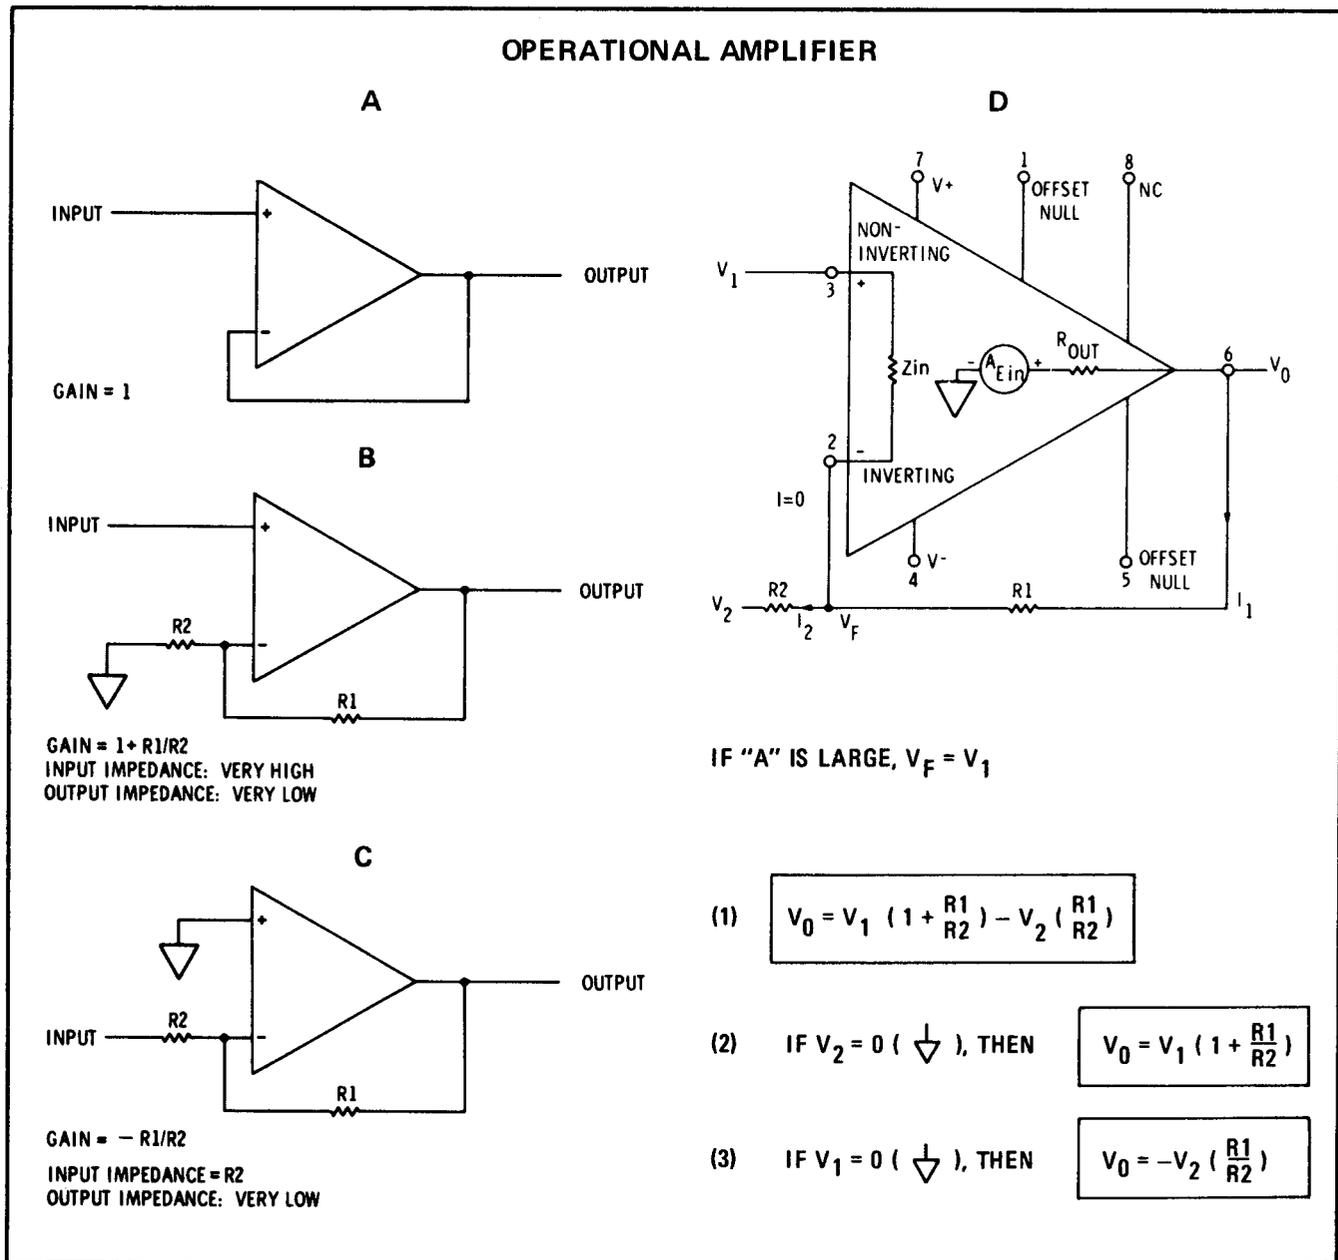

Figure 8-3. Operational Amplifier Equivalent Circuit
**8-29. Operational Amplifiers Function.** Operational amplifiers are used to provide such functions as summing amplifiers, offset amplifiers, buffers and power supplies. The particular function is determined by the external circuit connections. Equivalent circuit and logic diagrams for type 741 operational amplifiers are contained in Figure 8-3. Circuit A is a non-inverting buffer amplifier with a gain of 1. Circuit B is a non-inverting amplifier with gain determined by the resistance of R1 and R2. Circuit C is an inverting amplifier with gain determined by R1 and R2. Circuit D contains the functional circuitry and pin connection information along with an operational amplifier review.